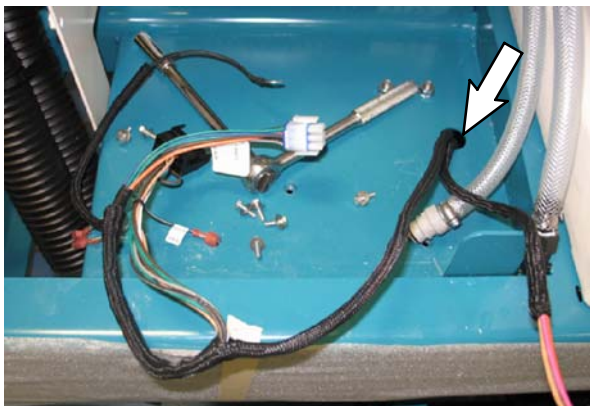

FIG. 2
31. Use isopropyl alcohol to clean the surfaces where labels will be installed onto the machine. Install the labels onto the machine. Refer to **Fig. 2 - Switch and Label Group** for label locations.
4. Route the end of the *ec-H2O* harness with the diode through the hole in the frame of the machine and to the water valve attached to the scrub head. Refer to Fig. 2.